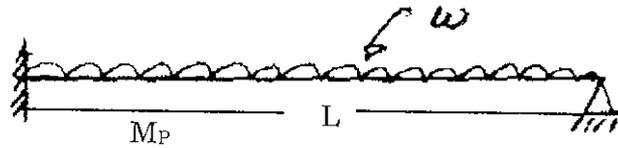

Fig. 6
- (b) Determine the collapse load for the beam shown in Fig. 6.